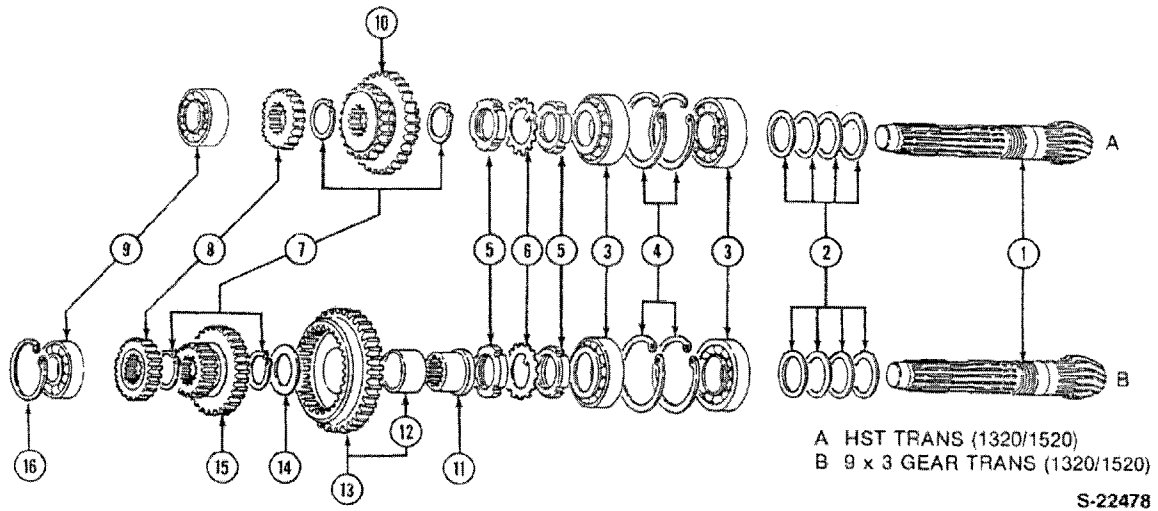

Figure 19
4. If removed, install the two drive pinion bearing snap rings in the housing, Figures 19 and 20.
5. Assemble the thrust washer, shims and pinion shaft rear bearing on the shaft, Figures 19 and 20. Insert the pinion shaft into the housing from the rear while installing the front bearing, lock nuts, lock washer and 4WD sliding gear as shown, Figure 19.